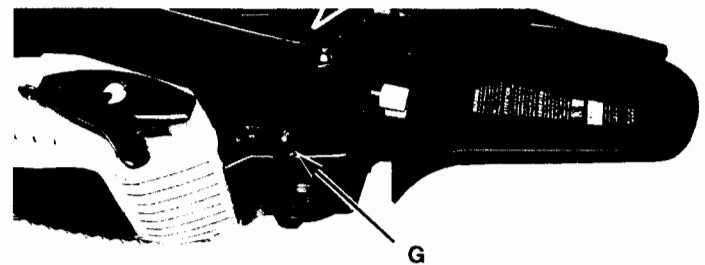

Fig. 5
5. Fully press and release the primer bulb (G) 10 times, slowly. Some amount of fuel should be **visible in the primer bulb** (Fig. 5). If you can't see fuel in the bulb, press and release the bulb as many times as it takes before you can see fuel in it.